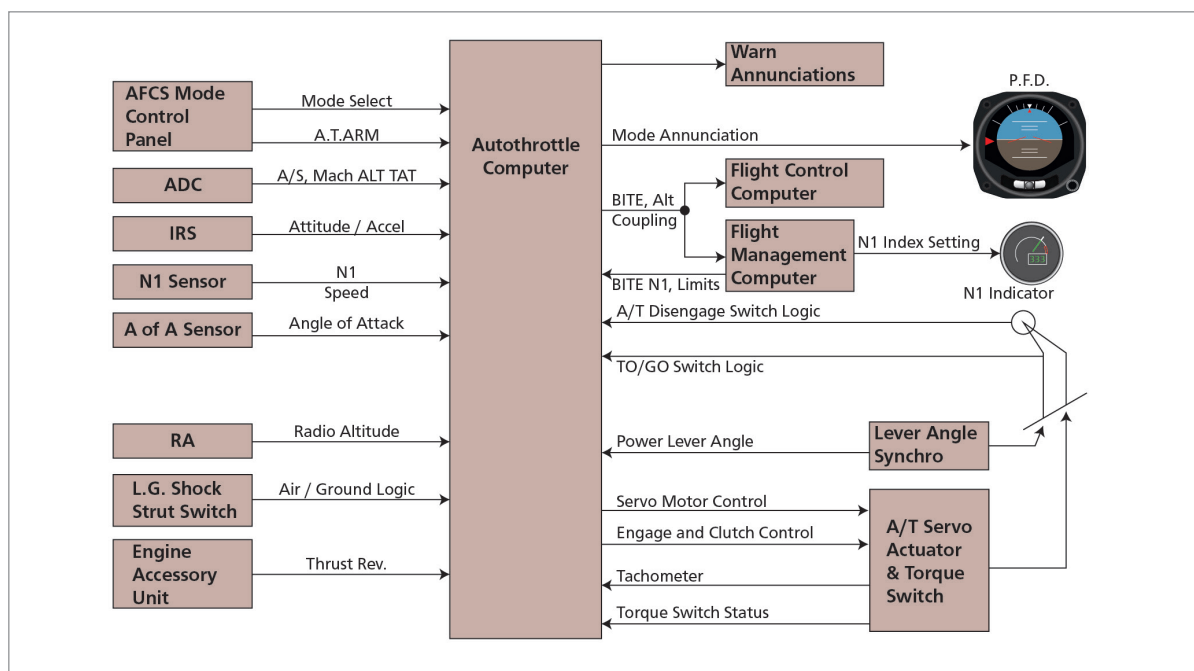

Figure 28.1
*Figure 28.1* shows a basic autothrottle system and signal interfacing between various aircraft systems and sensors.